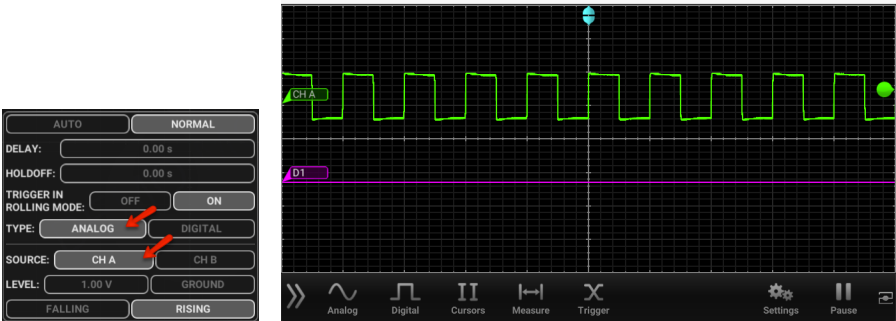

Figure 9. Set the analog trigger to channel A and adjust the screen until your signal looks similar to this figure.
4. Change the triggering of the iMSO software to the Analog channel A and adjust your screen to look like figure 9.